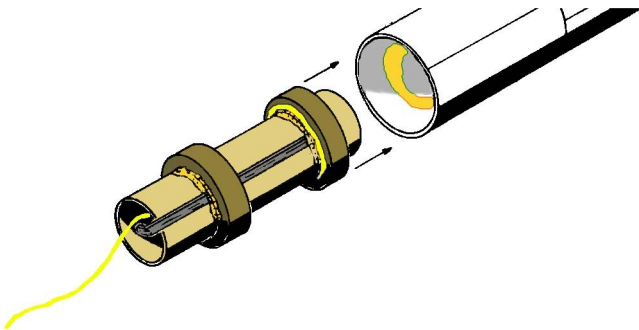

Figure 6
- **Step 10** Push the Kevlar thread down through the center of the mount and pull the excess out of the way. As shown in Fig.6, apply a generous bead of glue up inside the **bottom end** of the body tube, about 1.5" from the edge. With **one continuous motion**, push the engine mount into the body tube and through the glue, until the